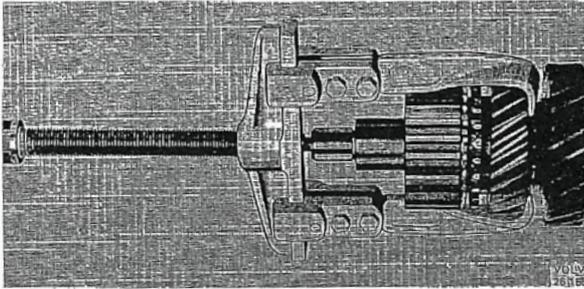

Fig. 4-16. Removing front synchronizer
3. Remove the circlip on the front end of the shaft. Pull off the synchronizing hub and 3rd speed gear wheel with a puller, see Fig. 4-16. Remove the thrust washer.